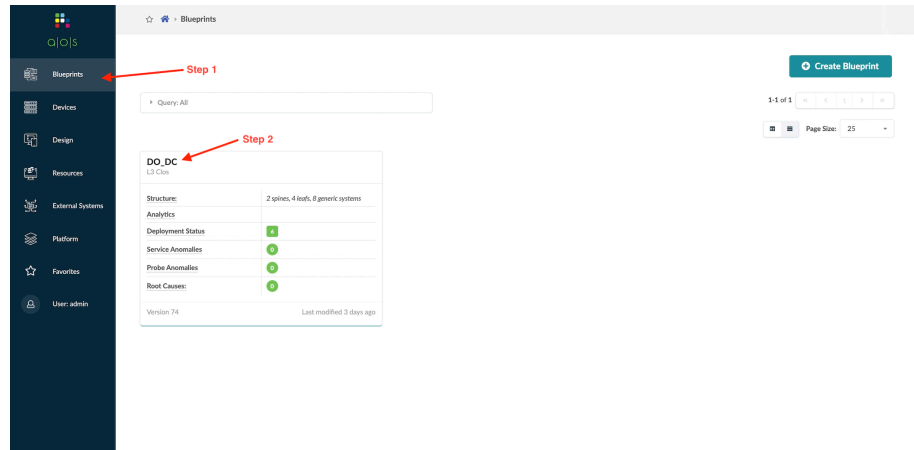

Figure 7.27 Verifying a Configlet Has Been Applied
Step 1: Go to Blueprint. See Figure 7.27.